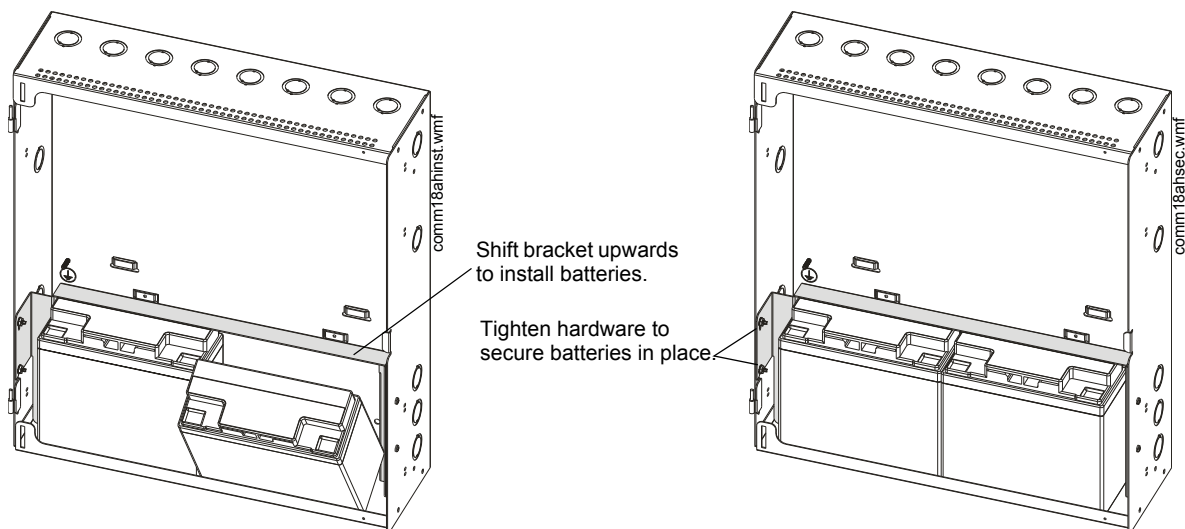
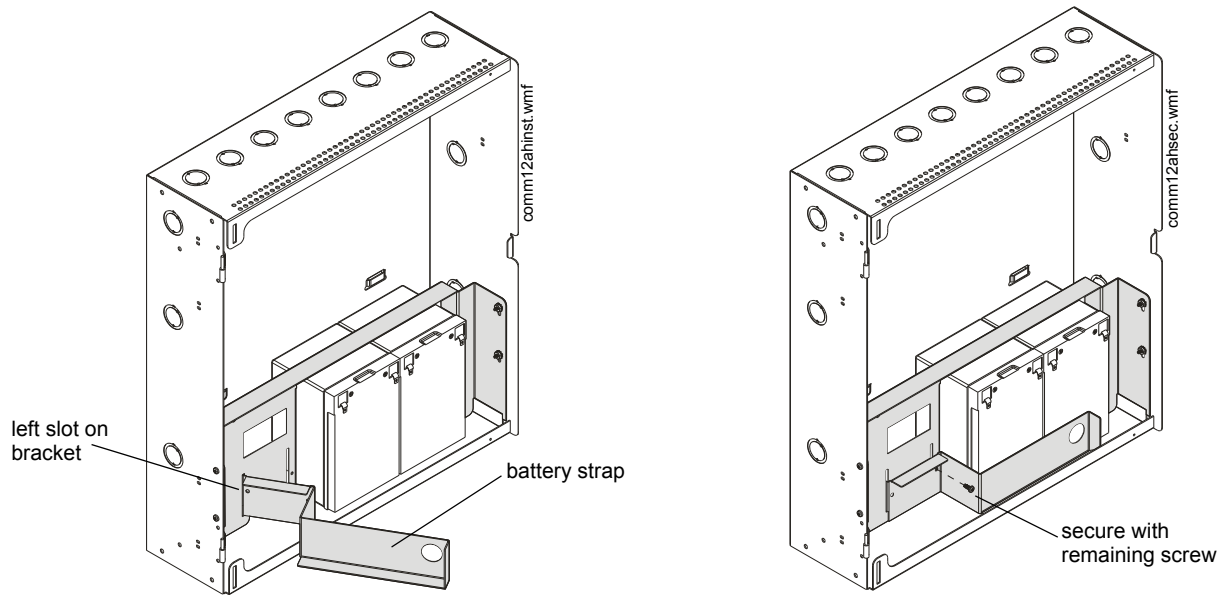
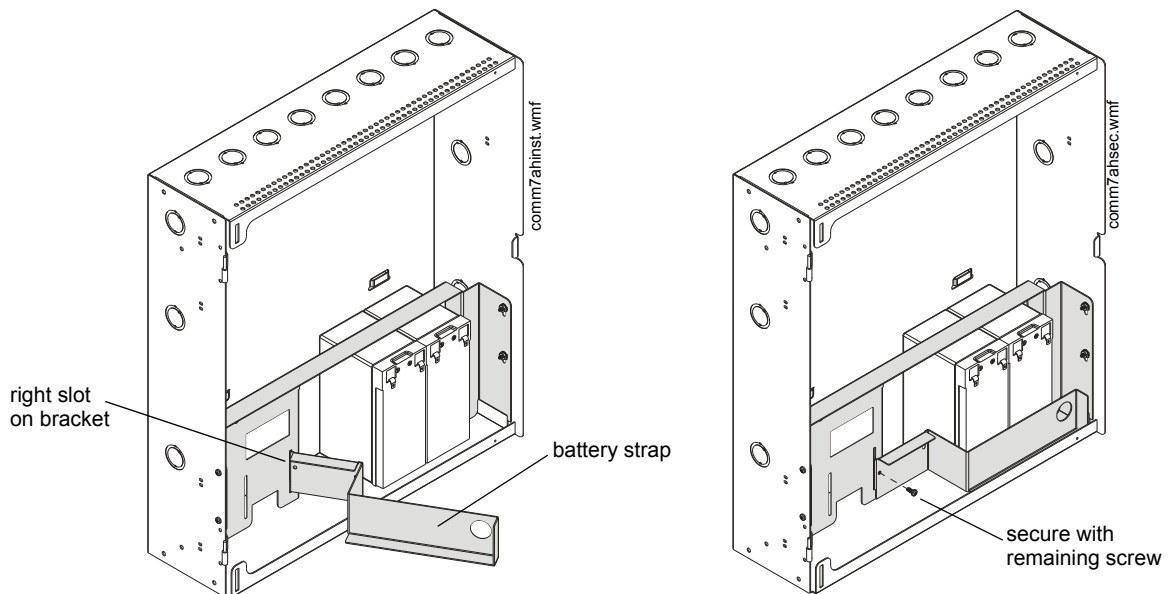

Figure 3 Installing 18AH Batteries
Figure 4 Installing 12AH Batteries
Figure 5 Installing 7AH Batteries
3. Shift the bracket upwards and install the batteries. For installation configuration, refer to Figure 3 for 18AH batteries, Figure 4 for 12AH batteries, and figure 5 for 7AH batteries.